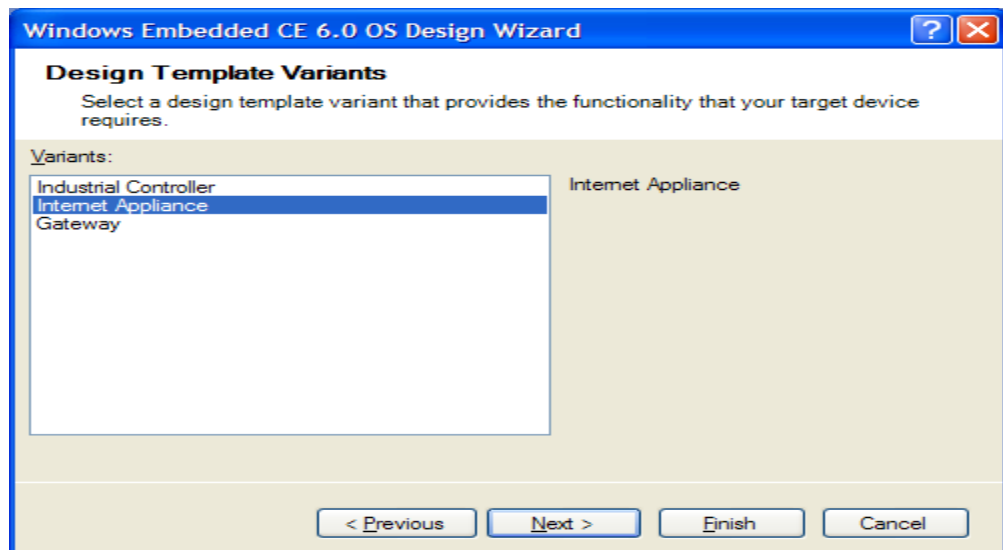

Figure 42. Windows Embedded CE 6.0 Design Wizard
5. Design template, select Windows Internet Appliance, as shown in figure 42.